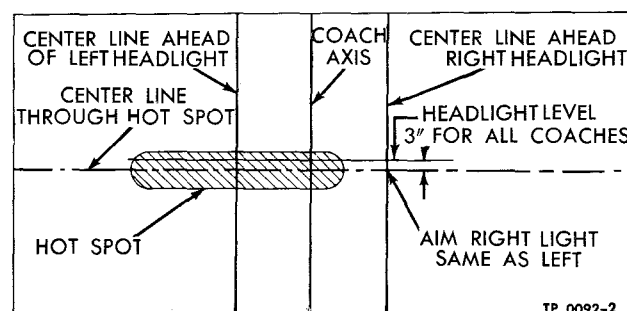

Figure 32—Headlight Beam Pattern
5. Beam pattern should approximate that shown in figure 32. A distorted beam pattern is usually caused by a sprung reflector, in which event Sealed-Beam unit must be replaced.